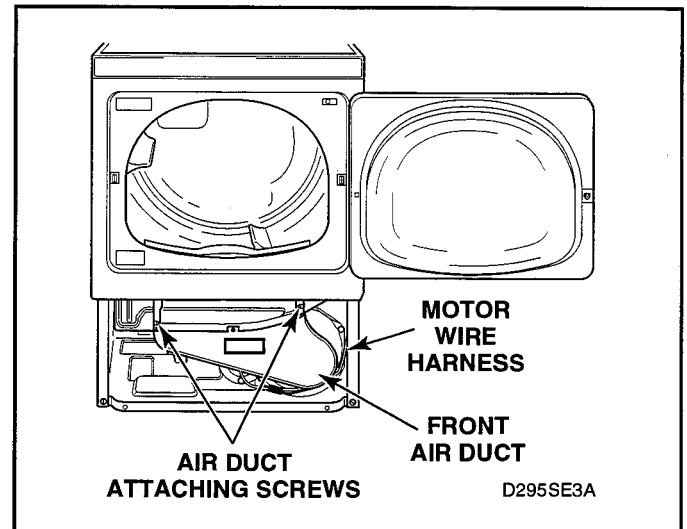

Figure 5-15
- Remove two screws holding duct to front bulkhead and remove air duct. See figure 5-15.
- Remove screws holding air duct to front bulkhead and remove air duct. See figure 5-15.
IMPORTANT: When reinstalling motor and exhaust assembly, be sure wire harness on right side is clipped to motor mounting bracket and is routed along dryer base (between motor mounting bracket and right side of cabinet). See figure 5-15. Tab on rear of motor mounting bracket must be slid into slot in dryer base. Be sure the belt has been installed on the correct side of the idler lever. See figure 5-17.